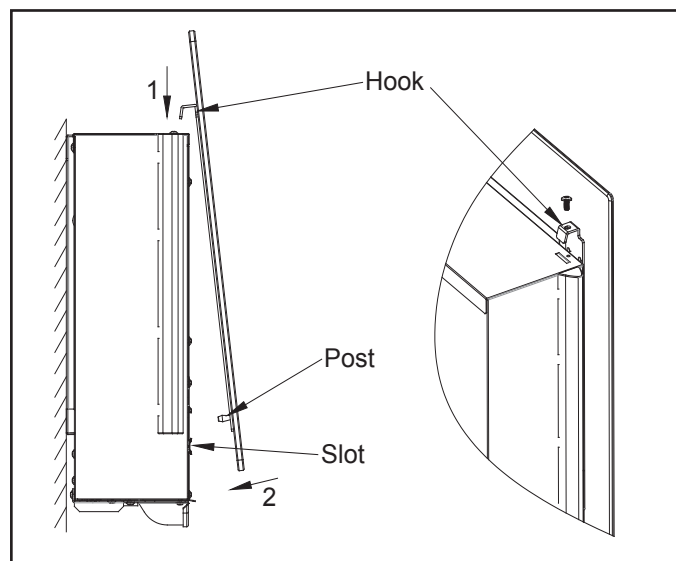

Figure 4.10 Attaching Front to Fireplace
- Install glass front by setting both hooks of the front glass panel into the slots at the top front edge of the firebox as shown in Figure 4.10.